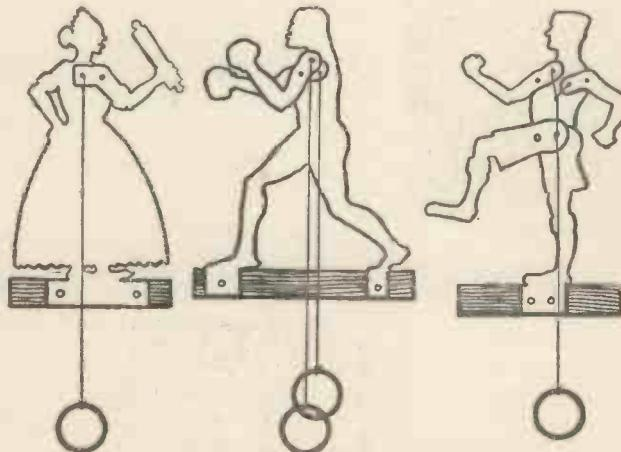

Fig. 4.—Details for making the Figures.
**The Figures.**—The model is now complete, and should be given a coat of paint—brown, red, or blue preferably. If desired, a curtain can be fitted in the opening. The characters can be made to move by means of wires with rings attached. The fingers are inserted in the rings, and are moved about at the discretion of the operator. The figures are made as shown in Fig. 4. They should be attached to  $\frac{1}{2}$ -inch blocks, which fix in the stage  $\frac{1}{2}$  in. below the opening level (Figs. 3 and 5).